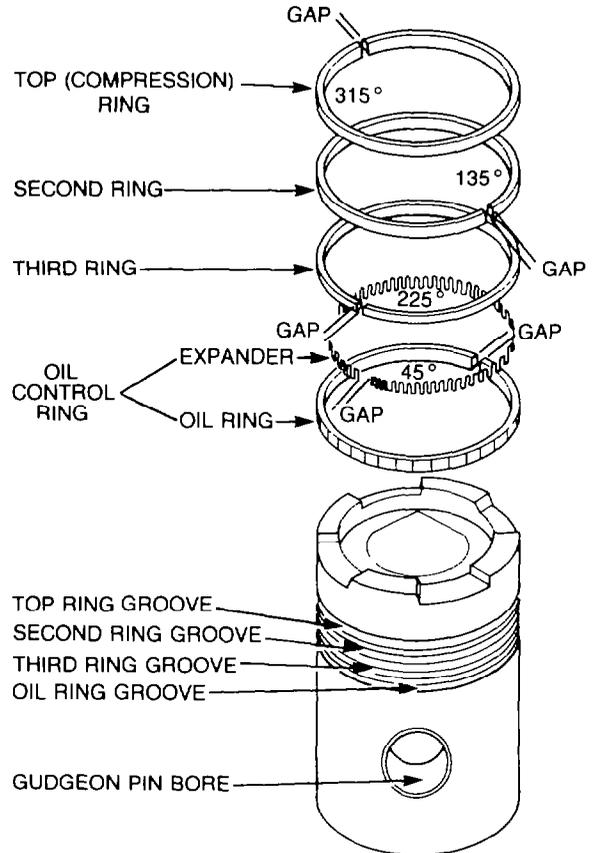

Figure 49 — Piston Ring — Installation
- ai. Install the piston rings to the pistons (as numbered) using a suitable piston ring expander. Commence with the oil control ring (see Fig. 49), ensure the side marked TOP on each piston ring